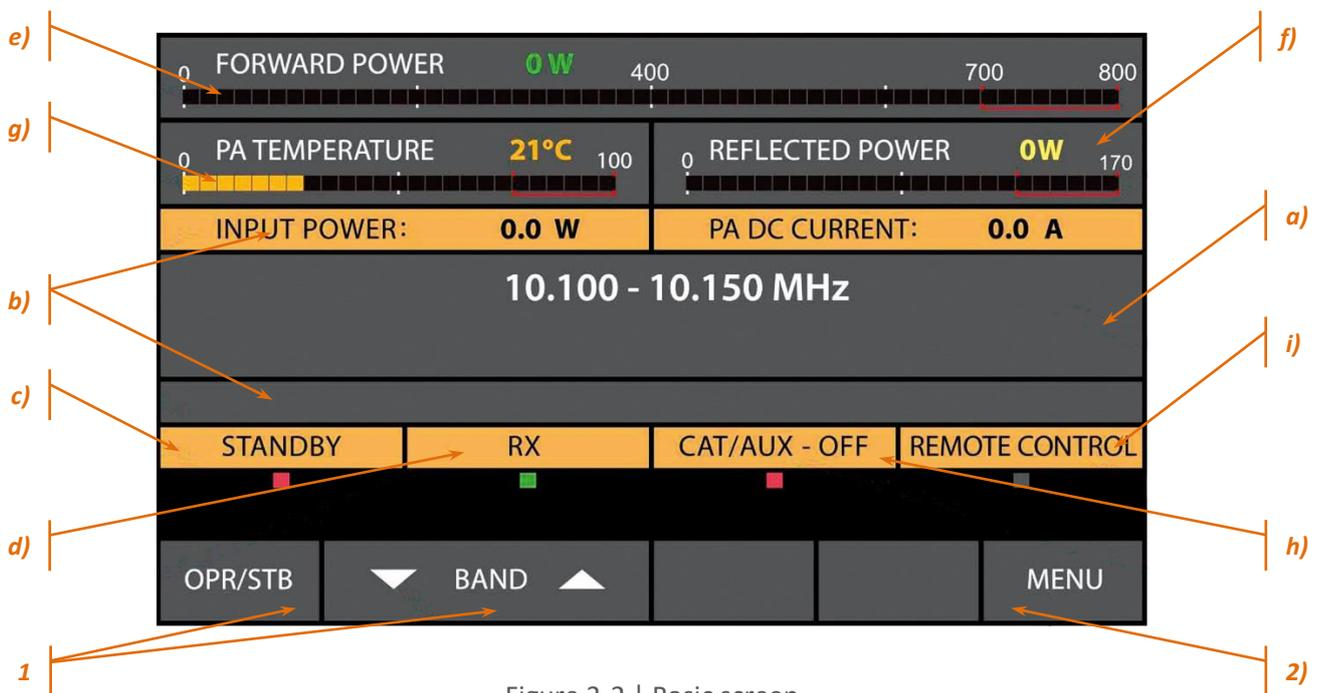

Figure 3-2 | Basic screen
In order to start up the amplifier, push and hold the front panel **POWER** button for one or two seconds. About ten seconds later (boot sequence) the display will flash and show the basic screen with the amplifier information (see Figure 3-2 | Basic screen).
Please, see **Figure 3-2 | Basic screen**, Pos. (a).
Please, see **Figure 3-2 | Basic screen**, Pos. (b).
Please, see *Figure 3-2 | Basic screen*, Pos. (c).
Please, see *Figure 3-2 | Basic screen*, Pos. (d).
Please, see *Figure 3-2 | Basic screen*, Pos. (e).
Please, see *Figure 3-2 | Basic screen*, Pos. (f).
Please, see *Figure 3-2 | Basic screen*, Pos. (g).
Please, see *Figure 3-2 | Basic screen*, Pos. (h).
Please, see *Figure 3-2 | Basic screen*, Pos. (i).
Please, see *Figure 3-2 | Basic screen*, Pos. (1):
Please, see Figure 3-2 | Basic screen), Pos. (2).
Turn the amplifier on, as described in Sections 3.1 Low Energy STANDBY Mode of the Power Supply, 3.2 Front Panel, 3.3 Initial Turning On and 3.4 Basic Screen (see Figure 3-2 | Basic screen).